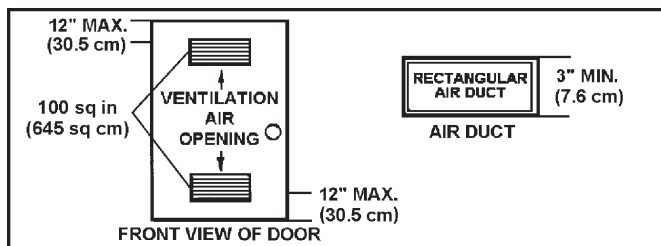

FIGURE 5.
**A. ALL AIR FROM INSIDE BUILDINGS:** (See Figure 5 and 6)